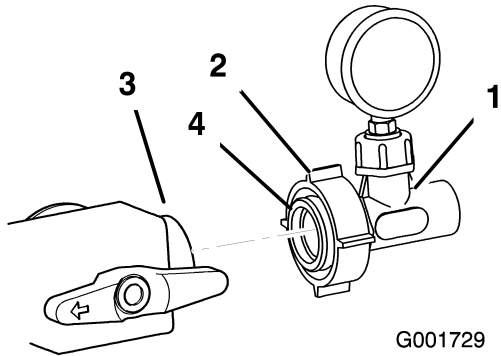

Figure 15
- Lubricate the O-ring in the adapter with a non-petroleum based lubricant, such as vegetable oil (Figure 15).
16. Install the pressure gauge assembly to the forward facing opening in the control valve installed previously (Figure 15). Tight the plastic nut to secure the assembly to the valve.